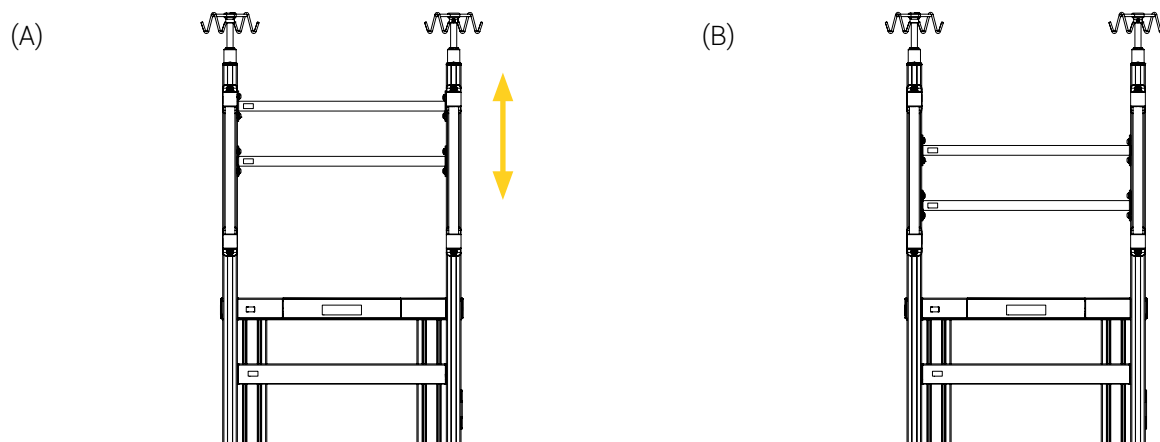

Figure 39: Height adjustment of the horizontal rails
3. Glide the horizontal rail up or down the vertical rail to adjust its height (Figure 39).